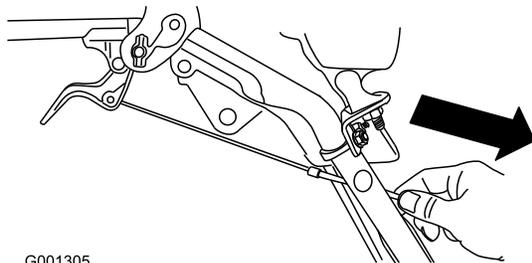

**Figure 8**
3. Remove the nut and washer from the handle, attach the cable clamp on the cable to the handle, install the washer and the nut, and hand tighten the nut (Figure 8).